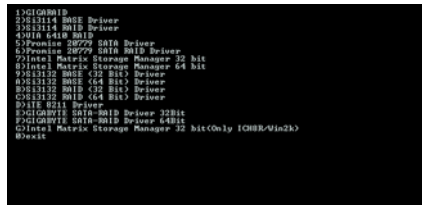
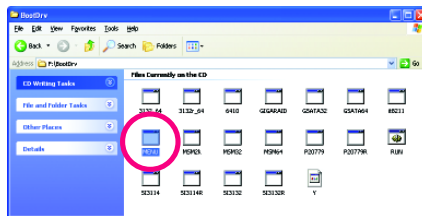

Figure 2
Figure 3
Step 2: When the controller menu (Figure 2) appears, remove the startup disk and insert the blank formatted disk. Select the controller driver by pressing the corresponding letter from the menu. For example, from the menu in Figure 2, select **7) Intel Matrix Storage Manager 32 bit** for Windows 32-bit operating system or **8) Intel Matrix Storage Manager 64 bit** for Windows 64-bit.
Use an alternative system and insert the motherboard driver disk. From your optical drive folder, double click the **MENU.exe** file in the **BootDrv** folder (Figure 3). A command prompt window will open similar to that in Figure 2.